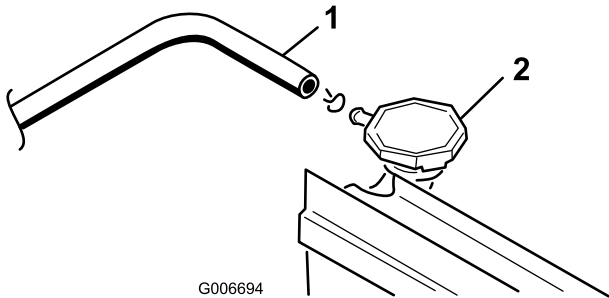

Figure 6
- Loosen hose clamp securing overflow tube to radiator and slide tube off radiator opening (Figure 6). Plug overflow tube to prevent coolant from escaping.